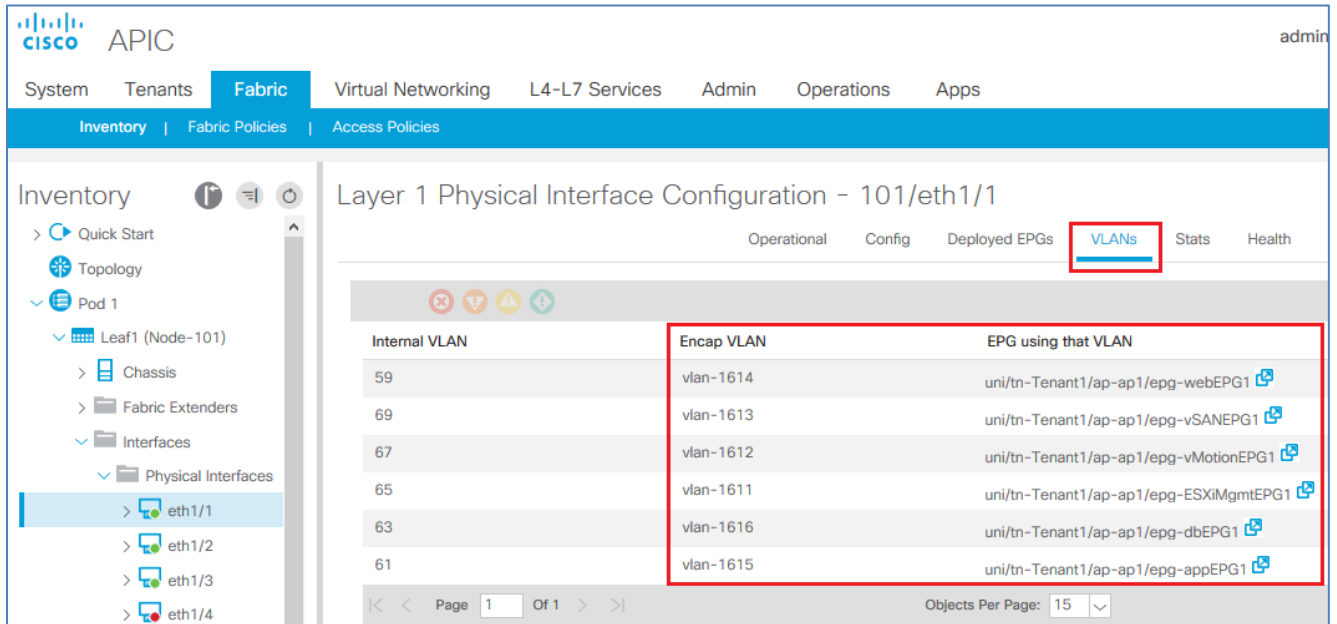

Figure 81 Cisco ACI interface VLANs and EPGs
3. With an interface selected in the left navigational panel, click the **VLANs** tab in the navigation window as shown in Figure 81.